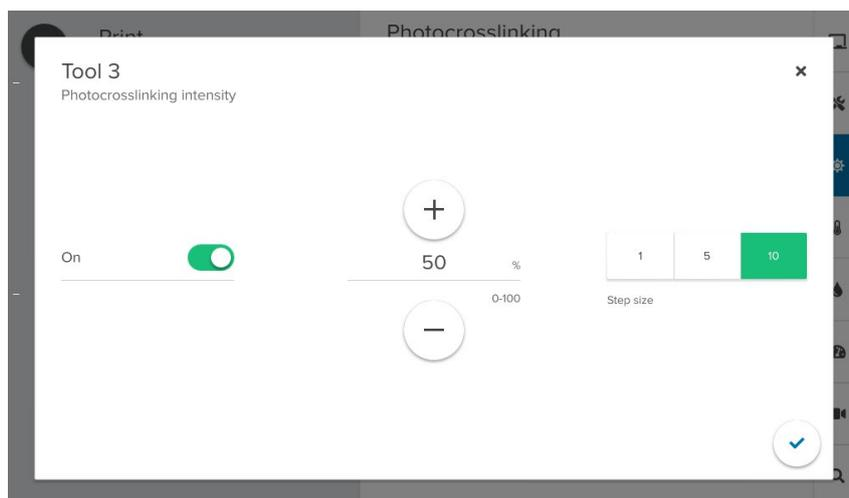

Figure 13 Manual photocuring: Intensity setting to 50% intensity.
- **Intensity:** 50% (**Figure 13**)
3. Set intensity: select the photocrosslinking module and set the intensity. for this protocol, use the default intensity of 50%, which is pre-calibrated to deliver approximately 20 mw/cm² at this distance (**figure 13**).